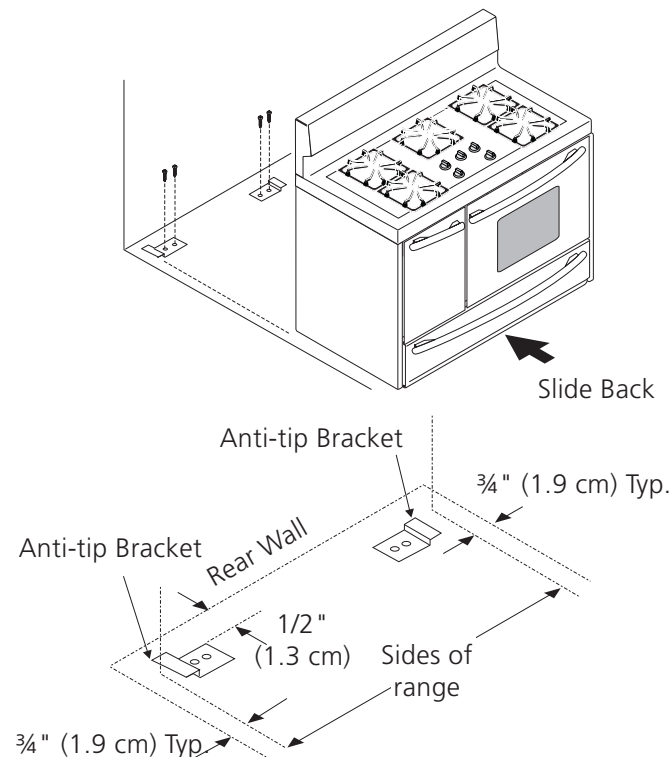

Figure 7
with the back and side edges positioned exactly where the back and sides of range will be located when installed. (Use the diagram in figure 7 to locate brackets if template is not available.)
3. Remove template and place brackets on floor with turned up flanges to the outside (see figure 7). Line up holes in brackets with marks on floor and attach with 4 screws provided (2 screws per bracket). Brackets must be secured to solid floor. If attaching to concrete floor, first drill 3/16" (4.8 mm) dia. pilot holes using a masonry drill bit.